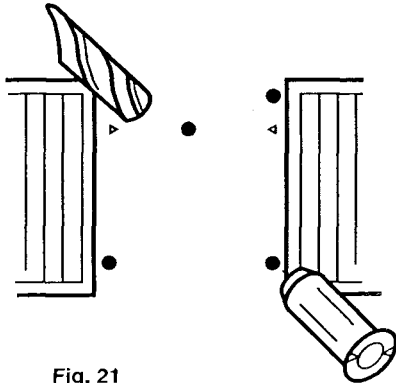

Fig. 21
3. Drill the anchorage holes 63mm (2½ in) deep to accept suitable wall plugs (Fig. 21).